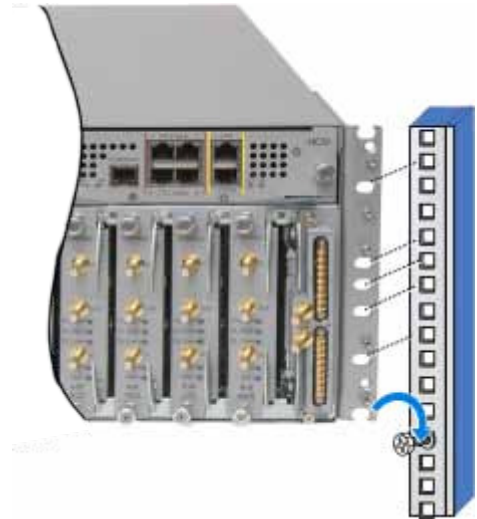

Figure 4-11. Installing Chassis in Rack (shows HEU as example)
2. Referring to Figure 4-11 secure the units' rack ears to the rack frame as follows: